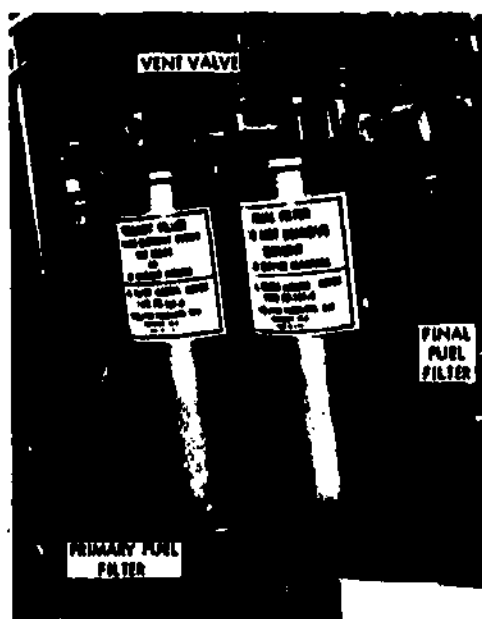

Fig 3-5. Secondary and final fuel filter.
f. **Secondary and final fuel filter (fig 3-5).** Fuel leaving the supply pump flows through a fuel line to the secondary fuel filter. Both filters are located on the left rear of the engine. The secondary filter is also commonly called the engine primary filter, but don't confuse it with the primary filter that is mounted on the vehicle frame. The secondary and final filters are both sealed by one common cover. Drain valves for draining trapped trash and water are located in the bottom of the filters as on all compression-ignition engine fuel filters. Two vent valves, one for each filter, are installed in the filter cover. Air trapped in the fuel system can be bled off through the vent valves.